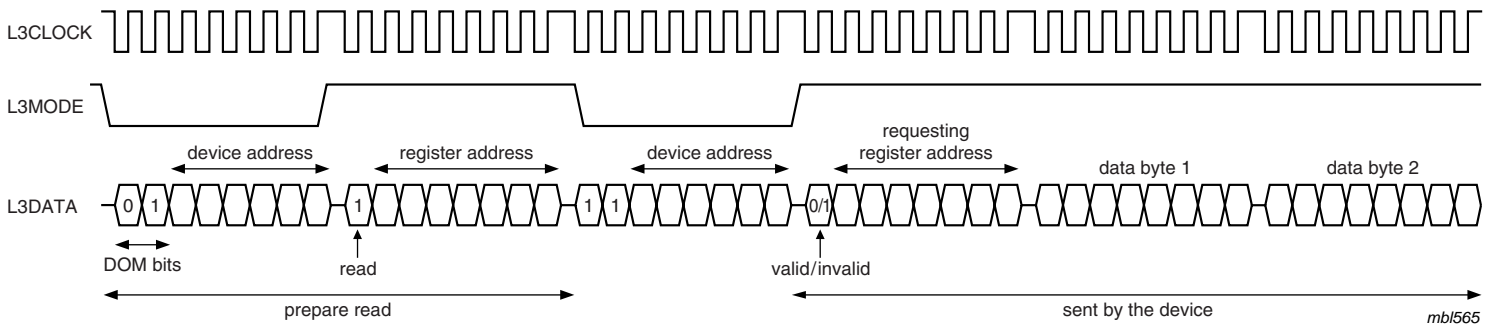

Fig 12. Data read mode
2. Addressing for prepare read: bit is logic 1, indicating that data will be read from the register; see Figure 12.
3. Addressing for data read action. Here, the device returns a register address prior to sending data from that register. When bit 0 is logic 0, the register address is valid; when bit 0 is logic 1, the register address is invalid; see Figure 12.
To read data from the device, a prepare read must first be done and then data read. The data read mode is explained in the signal diagram of Figure 12.